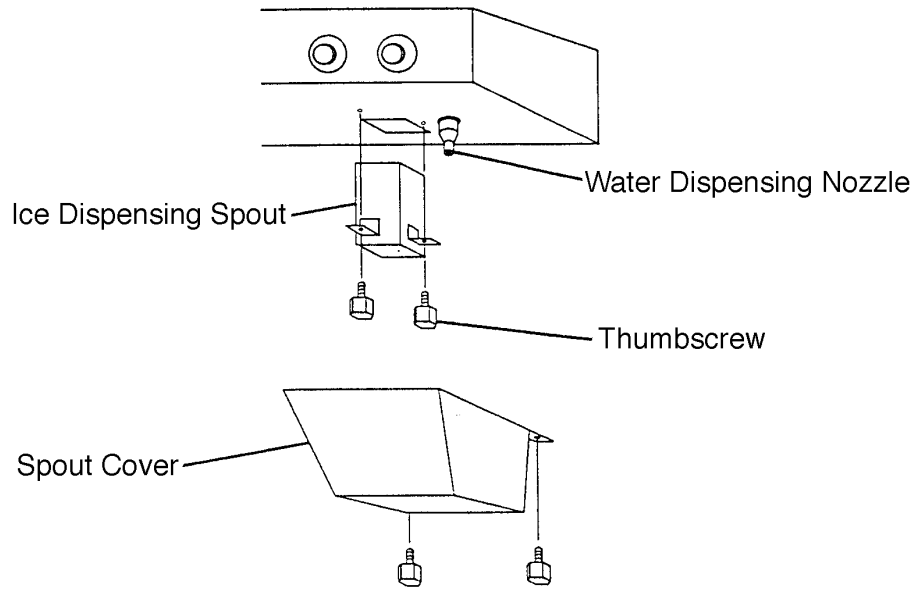

Fig. 9
6. Remove the Spout Cover and, the black Ice Dispensing Spout and the Water Dispensing Nozzle. See Fig. 9.